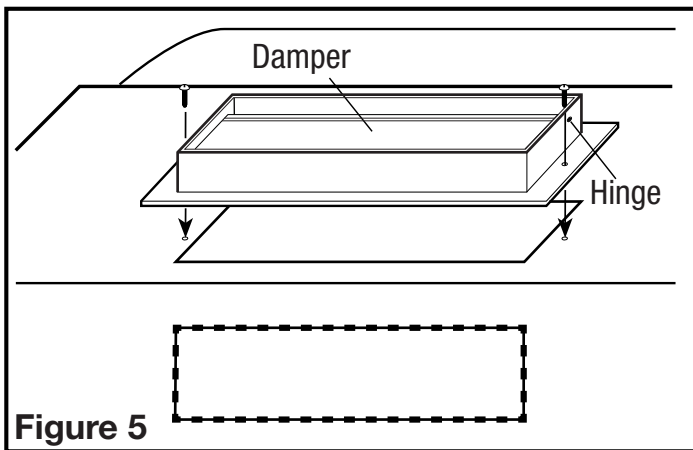

Figure 5
3. For vertical or horizontal ducting, install the appropriate damper assembly to the hood by placing the assembly over the opening and securing in place with the provided screws (**Figure 5**). If using the 3-1/4" x 10" damper, make sure the damper hinge is towards the front or the top of the hood to ensure the best possible performance.